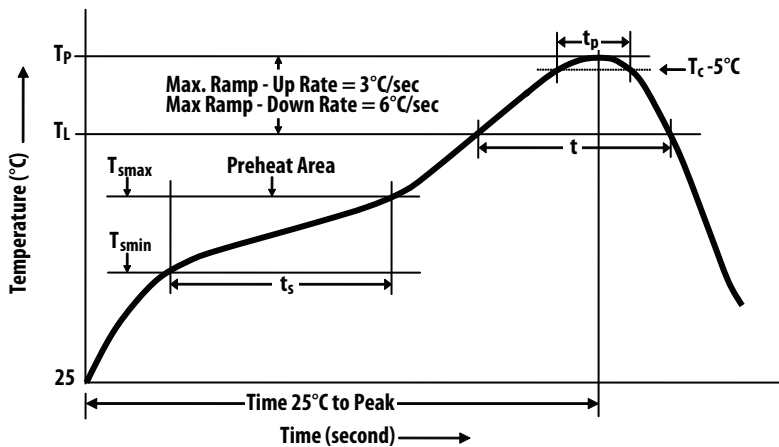

Figure 7. Solder Reflow Profile for PCB
3. Reflow the entire assembly with a no-wash solder flux process (refer to Figure 7 below).
Refer to Figure 7 and Table 2 for the recommended solder reflow profile for PCB using Pb-free solder paste LF310.
As ADNS-7630 is a QFN package, it is designed to be a contact-down package. Refer to Figure 7 and 8 on the critical and non-critical areas for QFN soldering. The critical area for soldering ADNS-7630 is on the terminal undersides, while the terminal sides are deemed as non-critical area, and thus not intended to be wettable. The non-wetting
| Lead Solder Temperature | T _p | | 260 | °C | MSL 3 level refer to Solder Reflow Profile in Figure 7 |